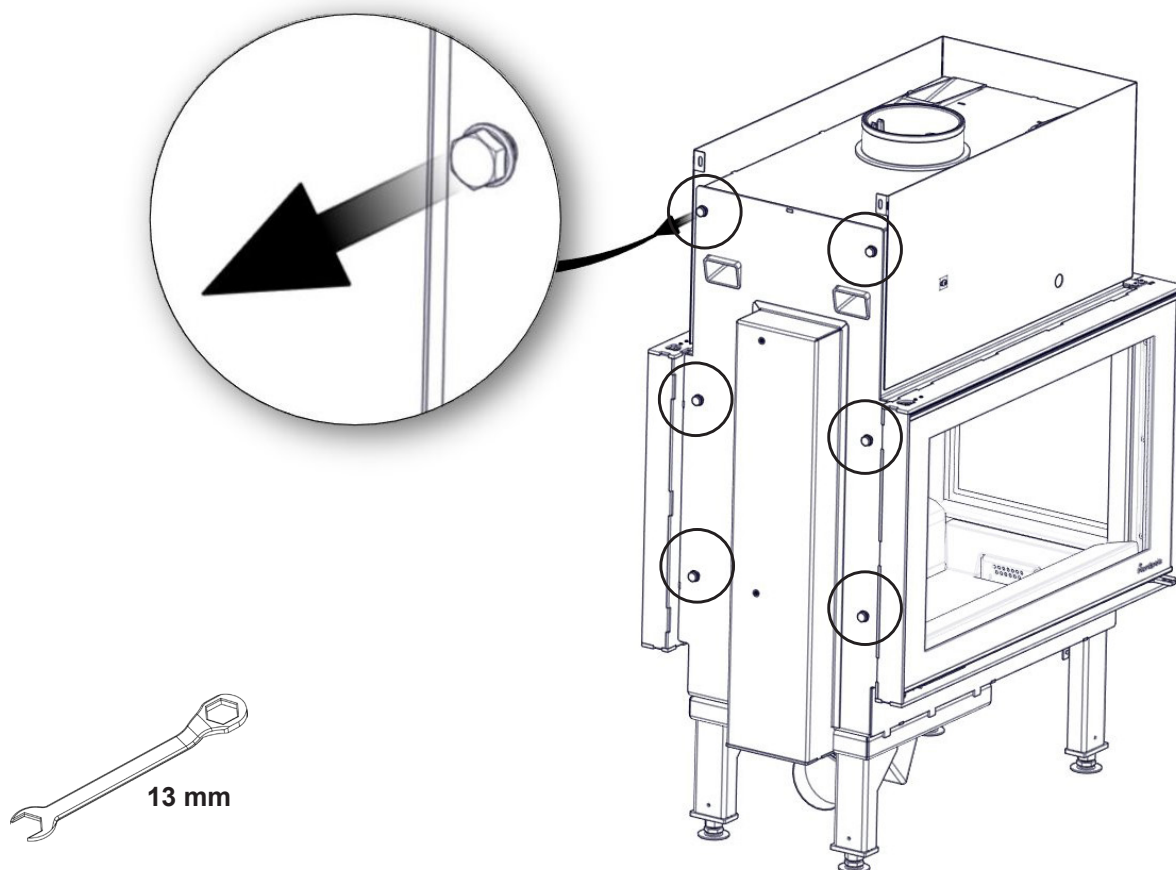

FIG 11
FIG 11 a
FIG 11 b Davos P / PX High\_N-29P / PX
FIG 11 c Davos P / PX High\_N-29P / PX
**FIG 11 d** Davos P / PX High\_N-29P / PX
**FIG 11 e** Davos P / PX High\_N-29P / PX
FIG 11 f